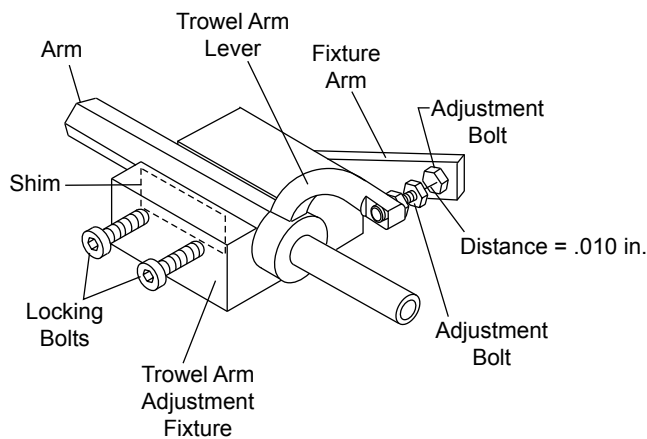

Figure 39. Trowel Arm Adjustment Fixture Components
3. Shown in Figure 39 is the adjustment fixture with a trowel arm inserted. As each trowel arm is locked into the fixture, the arm bolt is adjusted to where it contacts a stop on the fixture. This will consistently adjust all of the trowel arms, keeping the finisher as flat and evenly pitched as possible.
in Figure 39. A thin shim may be required to cover the blade holes on the trowel arm. Make sure to align the trowel adjustment bolt with the fixture adjustment bolt.
6. Adjust the bolt "distance" shown in Figure 39 to match one of the arms. The other arms will be adjusted to match this distance.